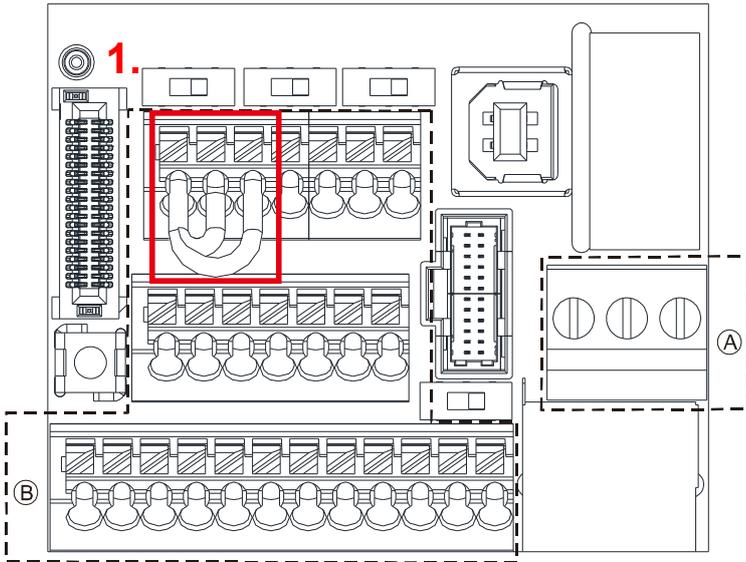

Fig. 6-6 Control Terminal Distribution Diagram
- The default condition is +24V / S1 / S2 shorted by jumper, as shown 1. in the Fig. 6-6. Refer to Chapter 4 WIRING for more details
- The RELAY terminal uses the PCB terminal block (as shown area Ⓐ in the Fig. 6-6):
- The Control terminal uses a spring clamp terminal block (as shown area Ⓑ in the Fig. 6-6):